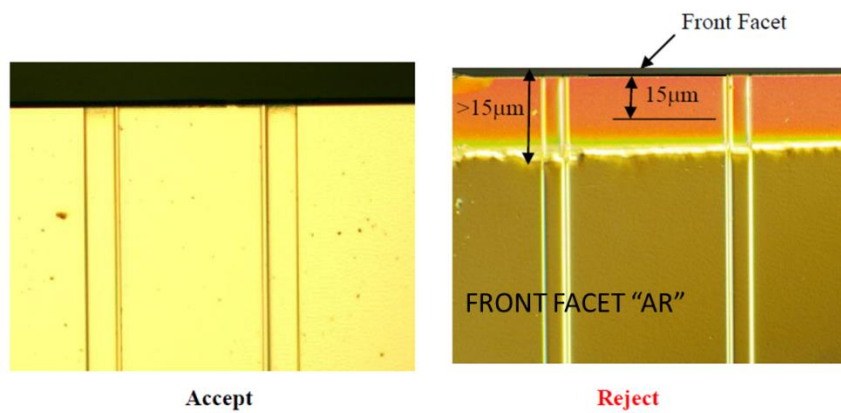

Fig. 4
- Mirror coating overspill less than $15\mu\text{m}$ on the P-side or less than $30\mu\text{m}$ on the N-side is considered within specs, as shown in Fig.4.